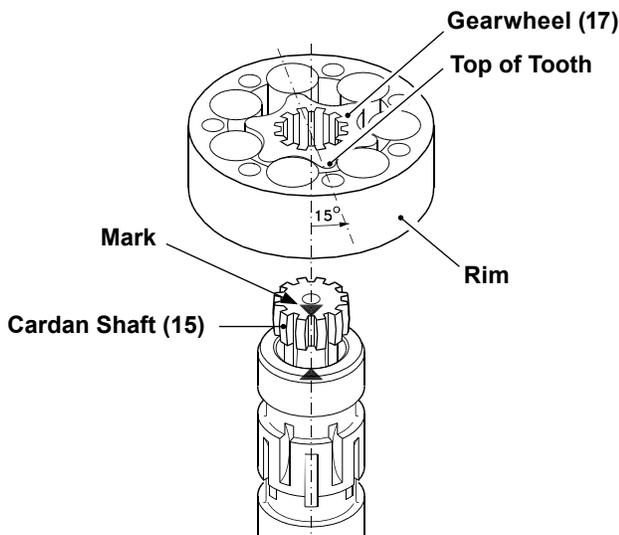

Figure 15, Gearwheel Set
- In gearwheel set (17) with non-through splines place the gearwheel set (17) with the recess in the spline hole facing down towards the motor housing (9).
- Fit the gearwheel set (17) on the cardan shaft (15) so that the top of the tooth in the external teeth of the gearwheel is vertically over the mark on the cardan shaft.
- Turn the gearwheel set (17) counter clockwise until the cardan shaft (15) and the internal gearwheel slips over and engages the splines.
- Turn the gearwheel rim to line up the screw holes. *See figure 15.* Alignment marks made before disassembly should line up.